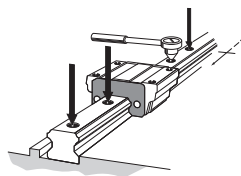

Fig.10 Fully Fastening the Mounting Bolts
- (4) Tighten the mounting bolts at the designated torque using a torque wrench. (See Fig.10, and Table1 and Table2 on **B1-101**.)